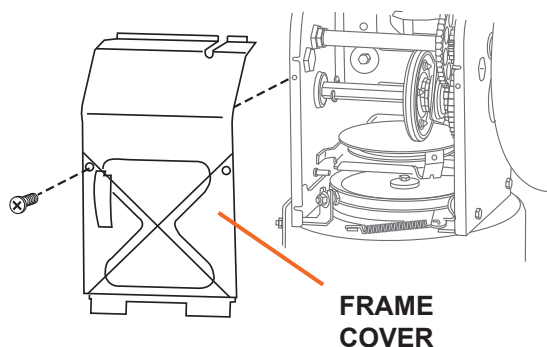

Figure 20
2. Carefully pivot the snow thrower up and forward so that it rests on the auger housing. Remove the frame cover from the underside of the snow thrower by removing four self-tapping screws which secure it (see Figure 20).